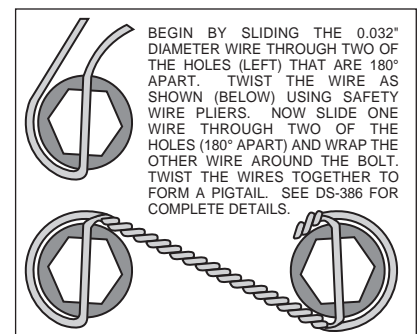

Figure 3. Safety Wire Diagram
- The caliper mount bracket assembly (1) should be installed first with clean, dry threads on the mounting bolts. Install the bracket from the rear side of the spindle by sliding the upper mounting bolt (4) through flat washer (5) and the upright into the upper bolt hole on the bracket. Attach the lower portion of the bracket by sliding bolt (6) through flat washer (7) and into the lower hole on the backside of the spindle. The bracket must tighten squarely against the inboard side of the spindle face plate/upright. Inspect for interference from casting irregularities, machining ridges, burrs, etc. If everything fits correctly, then remove the mounting bolts (4 and 6), coat threads with red *Loctite*® 271 and reinstall. Torque bolt (4) to 65 ft-lbs., and bolt (6) to 42 ft-lbs.
- Install wheel studs (8) into the hub (9). Torque to 77 ft-lb. **NOTE:** There are two lug patterns of five holes each in the hub (5 x 4.50 and 5 x 4.75). Make sure of the correct hole pattern for the wheel application before installing the studs into the hub.
- Pack the large inner bearing cone (10) with high temperature disc brake bearing grease (available from your local auto parts store) and install into the backside of the hub (9).
- Install the grease seal (11) into the backside of the hub (9).
- Pack the small outer bearing cone (17) with high temperature disc brake bearing grease and install into front side of the hub (9). Slide the hub assembly (9, 10, 11 and 17) onto the spindle. Secure using spindle washer (18), stock adjusting nut, and nut locking device. Adjust wheel bearing pre-load per Original Equipment Manufacturer (OEM) specifications.
- Install the O-ring (20) and the dust cap (19) into the hub (5). **NOTE:** O-ring (20) friction will not allow cap (19) to unscrew on its own.
- With the larger I.D. side of the rotor (12) facing away from the hat (13), bolt rotor (12) to hat (13) through the backside of the rotor using washers (14) and bolts (15). Using an alternating sequence, apply red *Loctite*® 271 to the threads and torque bolts to 155 in-lb. For an added measure of security, the bolts may be safety wired using standard 0.032 inch diameter stainless steel safety wire as shown in Figure 3. Please refer to Wilwood's data sheet DS-386 (available at www.wilwood.com/Pdf/DataSheets/ds386.pdf) for complete safety wire installation instructions.